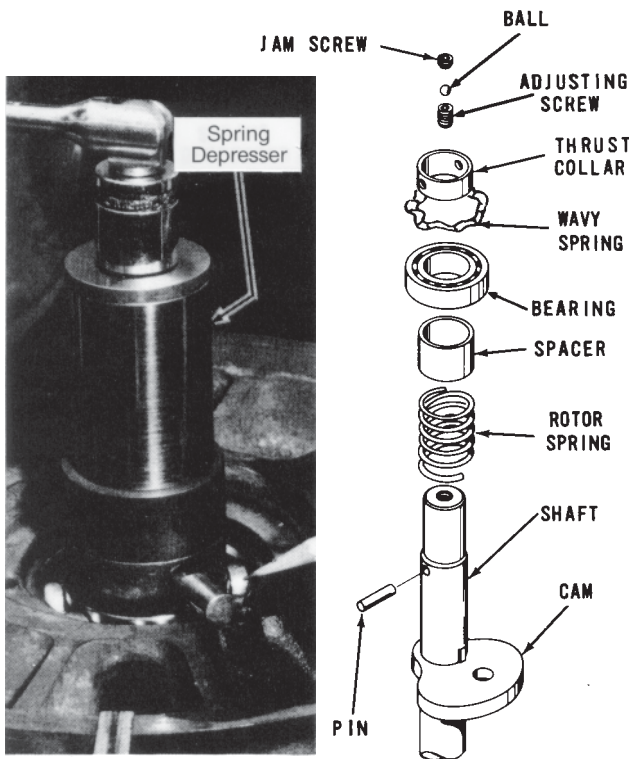

Figure 33 –Removing Collar
11. An arbor press or spring depresser should be used to remove remaining parts from rotor, Figure 33.